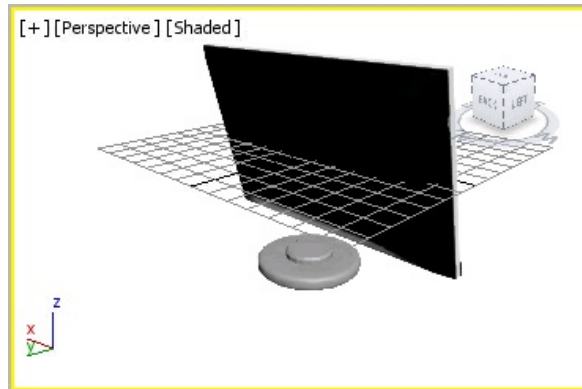

Figure 8-152 The back side geometry of LCD monitor in the Perspective viewport
19. Choose the **Zoom Extents All** tool and set the view of the Perspective viewport to view the back side of *LCD monitor*, as shown in Figure 8-152.